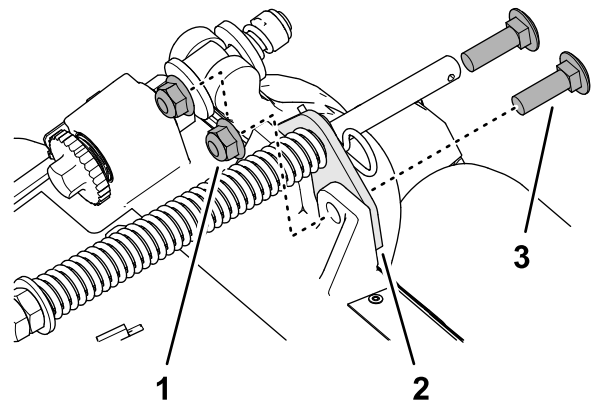

Figure 7
2. Remove the 2 flange locknuts (3/8 inch) and 2 carriage bolts (3/8 x 1-1/4 inches) that secure the turf-compensator bracket to the cutting-unit frame (Figure 7).